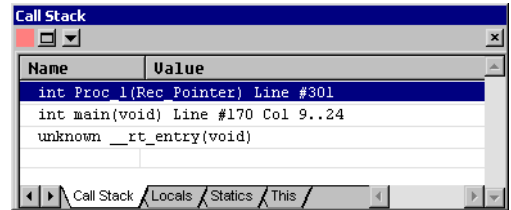

Figure 6-14 Multistatement details in the Call Stack pane
6. Select **View** → **Call Stack** to view the Call Stack pane, shown in Figure 6-14.
7. Continue to step through your program. If the current line is a multistatement line, the Call Stack pane shows the information in the form of line and column details, shown in Figure 6-14.
| Call Stack | Displays details of the functions currently on the stack, shown in Figure 6-14. |